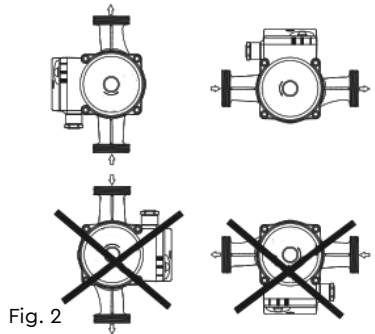

Fig. 2
2.11 The pump must be installed with the motor shaft in the horizontal plain (Fig. 1) allowing the flow through the inlet/outlet to be either vertical or horizontal (Fig. 2).